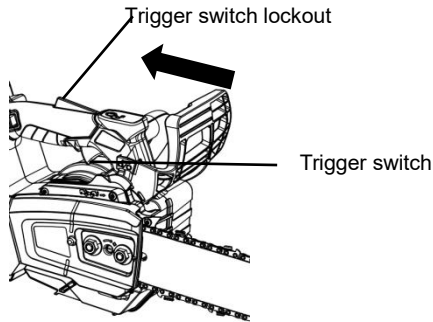

Fig 16
2. Pull the Front hand guard towards the front handle (Fig 16).
3. Squeeze the Trigger switch lockout and Trigger switch at the same time to start the chain saw (Fig 16)..